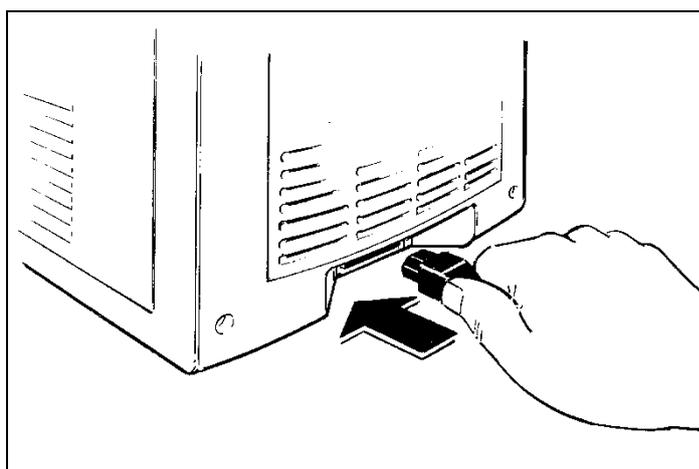

Fig. 23
-Active el interruptor general A (fig.23).